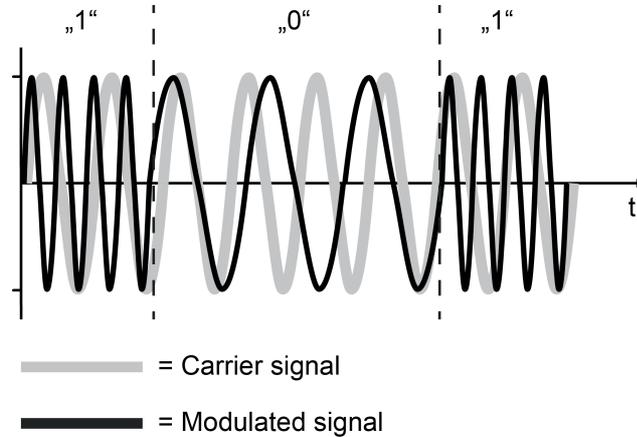

Figure 25: Frequency key shifting as a modulation method (FSK = Frequency Shift Keying)
An electromagnetic wave of a constant amplitude and frequency does not yet carry any information. To make this possible, the transmitter must change the amplitude or the frequency of the wave continuously according to an agreed method and the carrier signal must modulate the information in this manner. With KNX RF, the modulation type "Frequency key shifting" (FSK = engl. Frequency Shift Keying) is used (figure 25). Frequency key shifting is a variant of frequency modulation (FM) and suitable for the transmission of digital information. Two time-coded signals of a different frequency are transmitted, in order to inform the receiver of the logical states "0" and "1". Frequency key shifting is impervious to interference. Even major transmission losses in signal amplitude do not have a negative effect on the demodulation of the transmitted information.